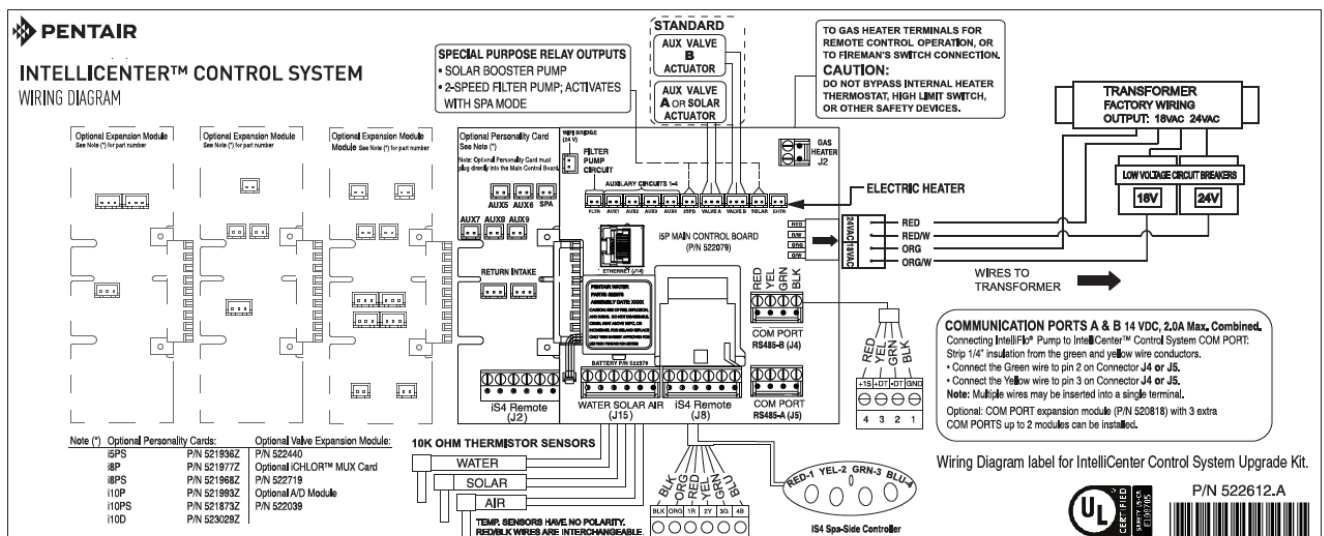

Figure 11. IntelliCenter™ Control System Circuit Board
4. If necessary connect the IntelliChlor® SCG wires to COM Port J4. See Figure 11, page 11 for wiring diagram.